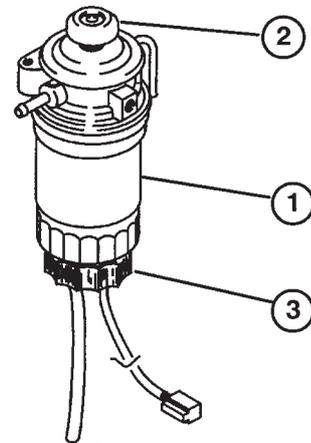

Figure 6
3. Open the drain plug on the fuel filter/water separator approximately one turn and drain any accumulated water. If necessary, operate the priming pump to drain water (Fig. 6). Tighten the plug after draining.